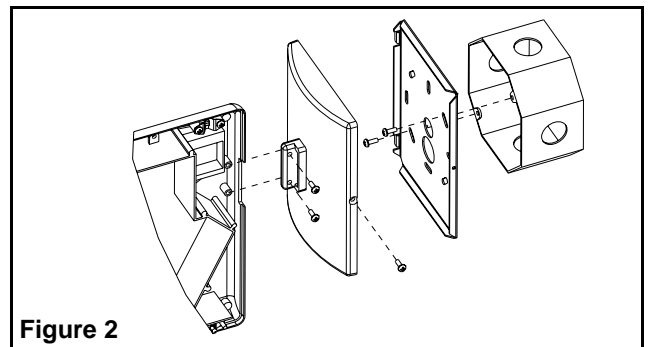

Figure 2
3. Separate the housing assembly, back cover and exit door, using a screwdriver (see fig. 2).
- a. Separate the canopy plate from the canopy assembly and retain the securement screw (see fig. 2).
- ing. Use the canopy screws to fasten the canopy to the housing (see fig. 2).
- h. Mount the exit/canopy assembly to the canopy mounting plate by guiding the two tabs on the canopy plate into the slots in canopy. Use the securement screw to fasten the canopy to the mounting plate (see fig. 2). Go to step 3.